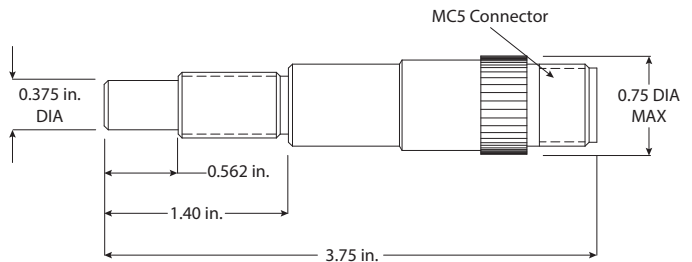

Figure 1: Dimensions
5. Connect the wire ends according to the pin configuration shown in Figure 1.